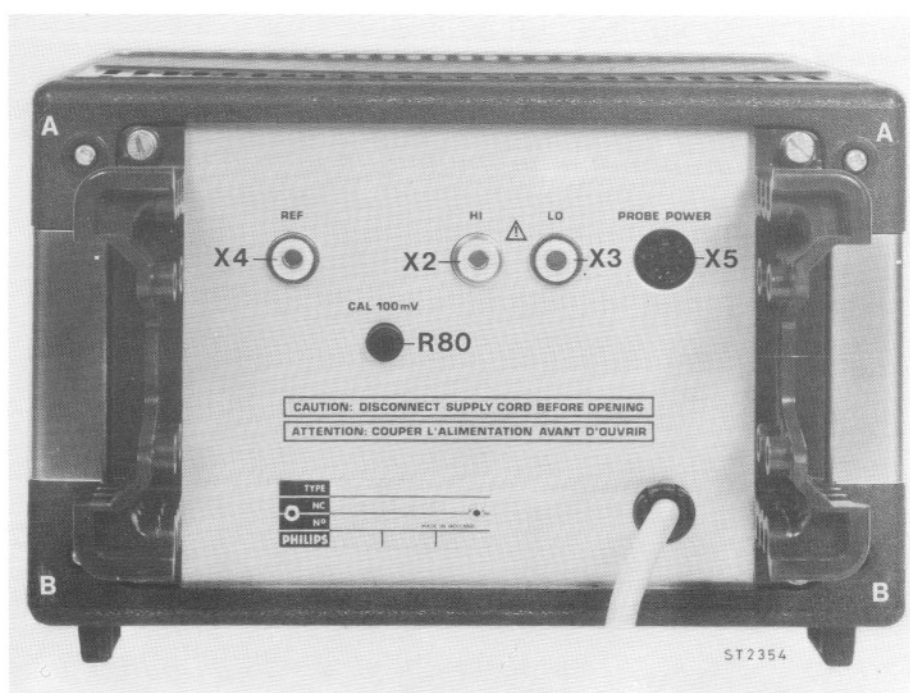

Fig. 5.
- Remove the top cover by removing the two screws A (see fig. 5 page 26)
- Remove both screws "A" (fig. 5)
- Remove both screws "B" (fig. 5)